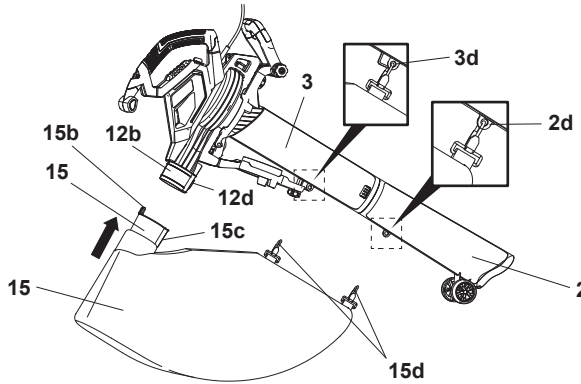

Fig. 6
1. Align and insert the tab (15b) of the bag connector (15a) to the collection bag port (12b) and insert it all the way to the stop (Fig. 6). Ensure that the locking button (12d) engages in the location hole (15c) (Fig. 6).
2. Attach two securing clips (15d) to the bag hooks (2d / 3d) on the lower vacuum tube (2) and the upper vacuum tube (3).